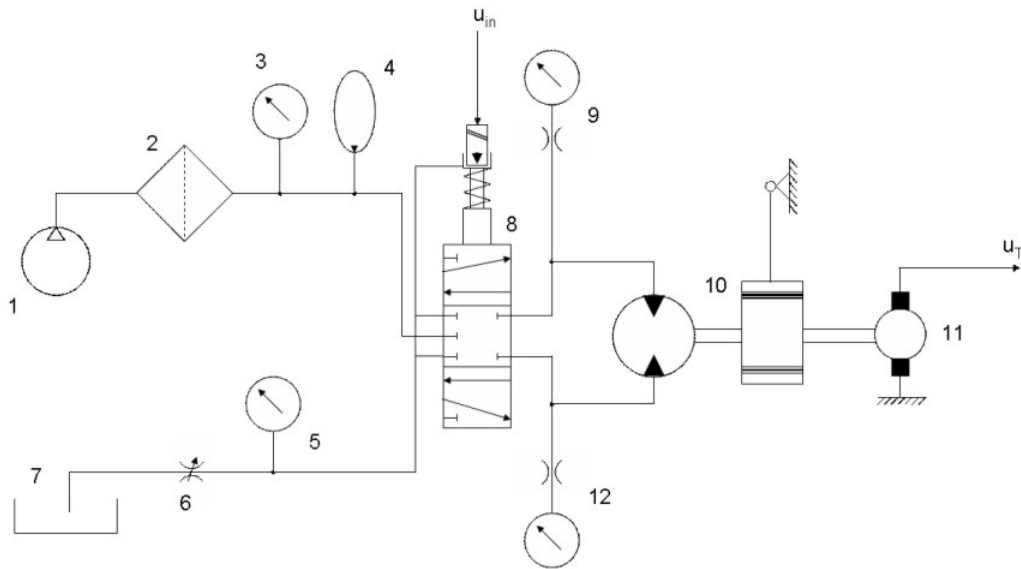

Figure 3: Feedback, Inc. hydraulic servomechanism.
13. Input (Input 4 (u_{in} in Figure 3))
15. Output (velocity (u_T in Figure 3))